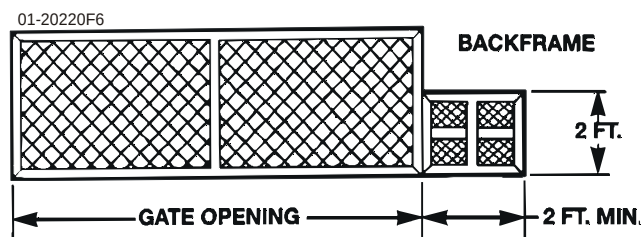

Figure 4
- ✓ Some gates may only be as wide as the gate opening. They may require a backframe to be constructed to allow for chain attachments. See Figure 4.